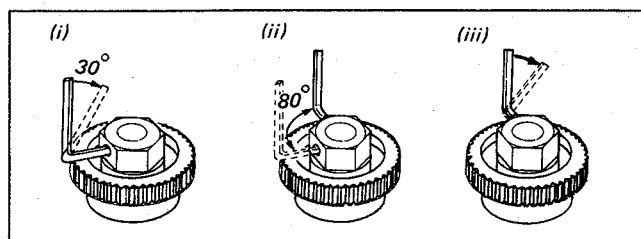

Fig. 4-10. Margin gear installation (EJECT mode)
- (i) Turn the Allen wrench of 1.5 mm edge length $\curvearrowright$ 30 degrees as shown in Fig. 4-10 (i).
- (ii) While the Allen wrench is left inserted in the hex nut, rotate the hex nut together with the Allen wrench approx. 80 degrees as shown in Fig. 4-10 (ii).